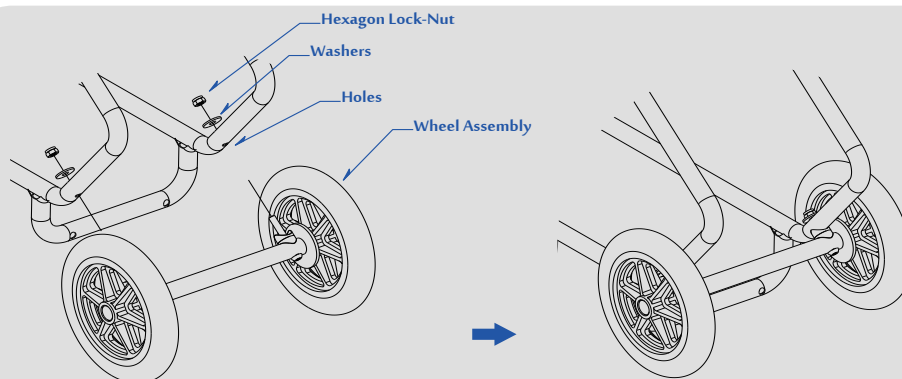

Figure 10. Install the wheel assembly
5. Install The Wheel Assembly (See Figure 10)